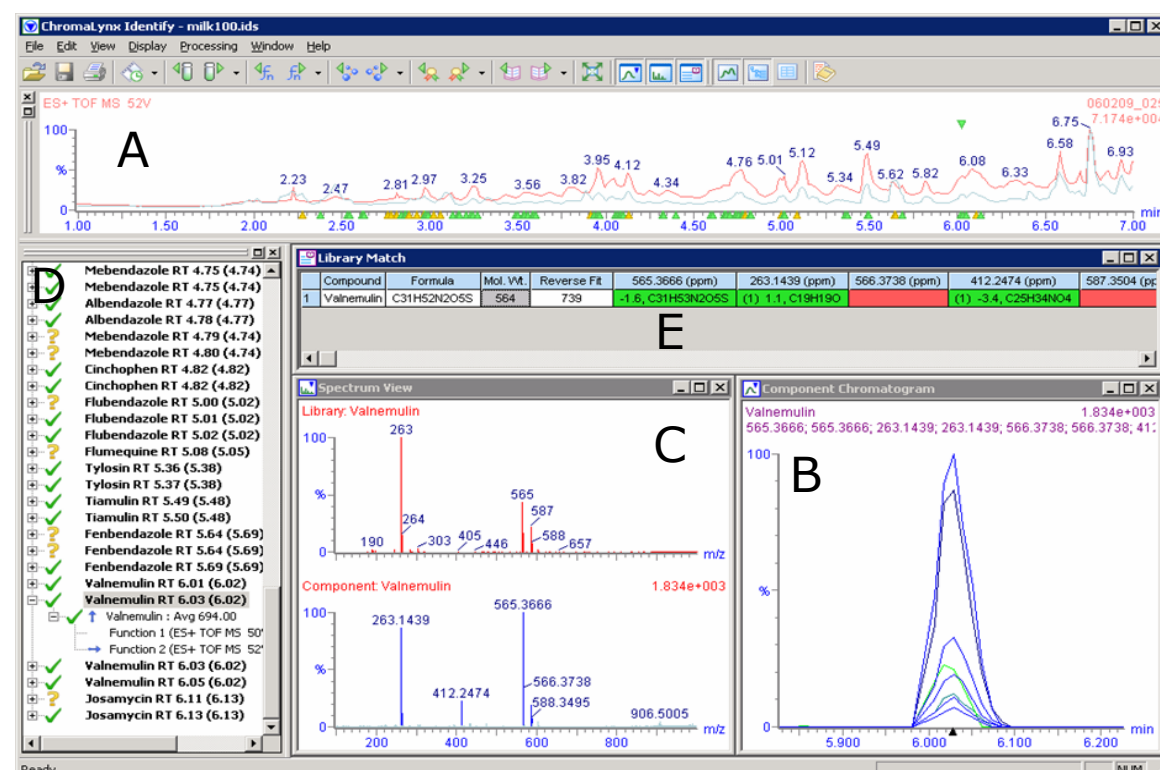

Figure 4. ChromaLynx browser window for non-target screening of veterinary drug compounds in milk.
Figure 4 shows the ChromaLynx browser with several windows (A-E) open to illustrate its functionality. (A) TIC is complex which makes it difficult to determine analyte peaks of relevance. (B) XICs of the n most intense ions. (C) The component mass spectrum is deconvoluted (refined, background subtracted) and matched to the library. (D) If the match factor is above a certain level (user-defined) then a candidate is considered a good match, and assigned a ✓. Between this level and a secondary level is considered a tentative match and assigned a ?. and below this secondary level, a negative is marked by a X. (E) The formula from the library entry is used to run EleComp on the measured mass. If it is within user-defined limits (5ppm) the calculated composition will be displayed shaded green. Within a second limit (20ppm) shaded yellow, and outside the limits, the box is shaded red.